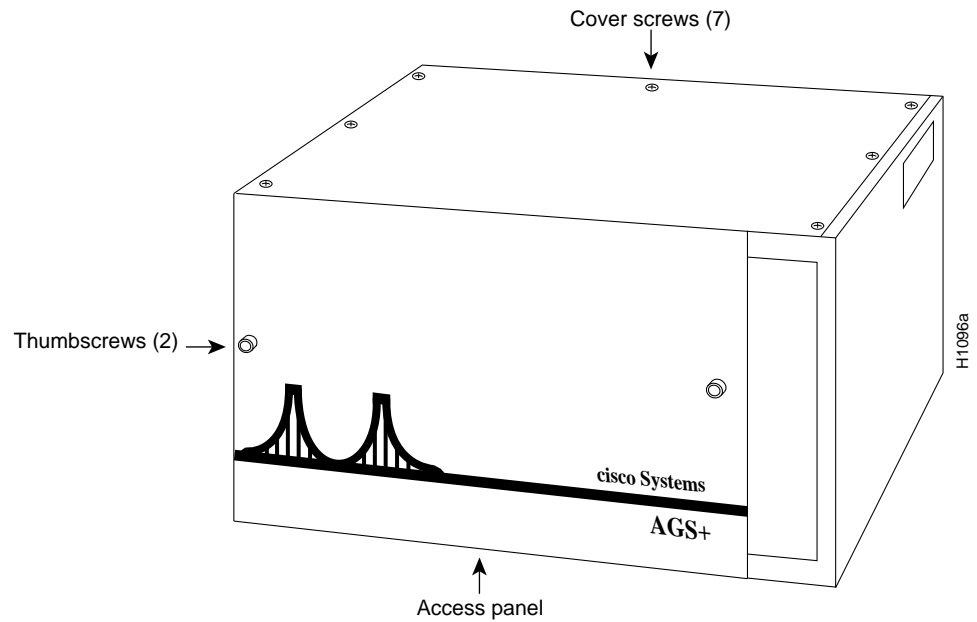

Figure 6 A Chassis Cover and Front Access Panel Fasteners
Note: Figures 6 and 7 show the factory-set jumper settings for DTE operation.
You must remove the top panel to gain access to the back panel connector plates and make internal cable connections. (Refer to Figure 6 when removing the chassis cover)
- Step 1:** On the front access panel, loosen (but do not attempt to remove) the two thumb fasteners and pull the panel off the chassis (see Figure 6).